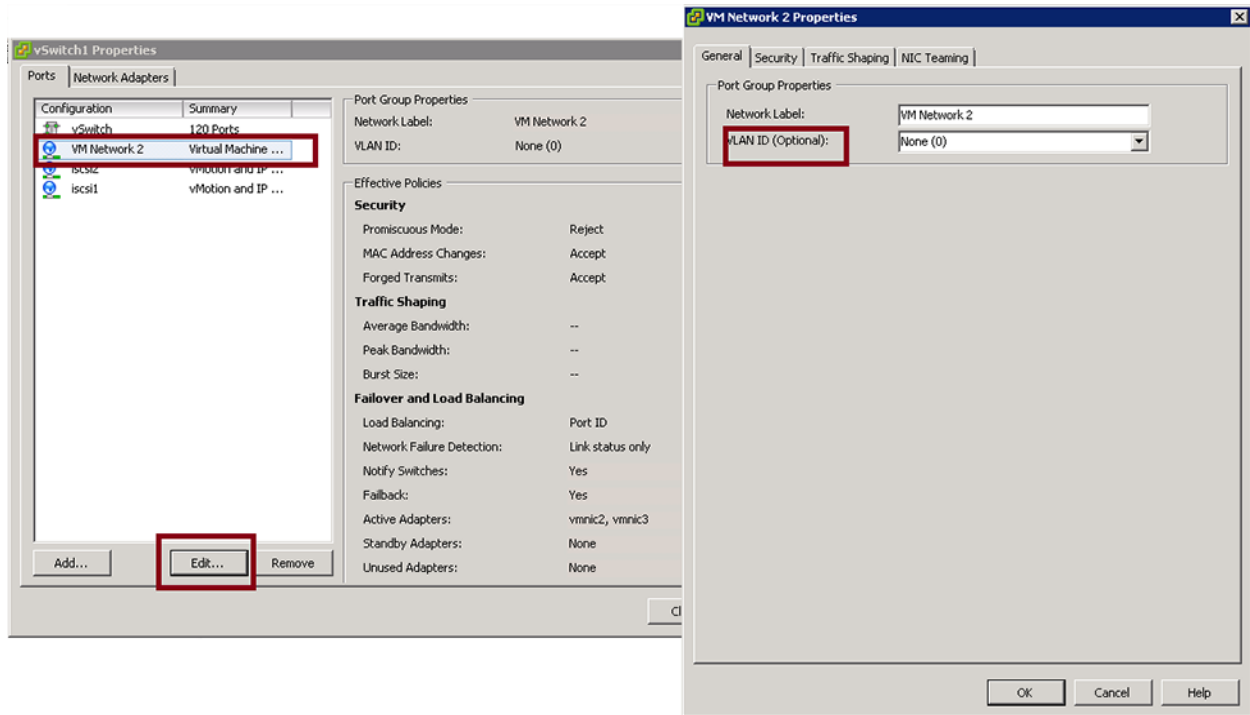
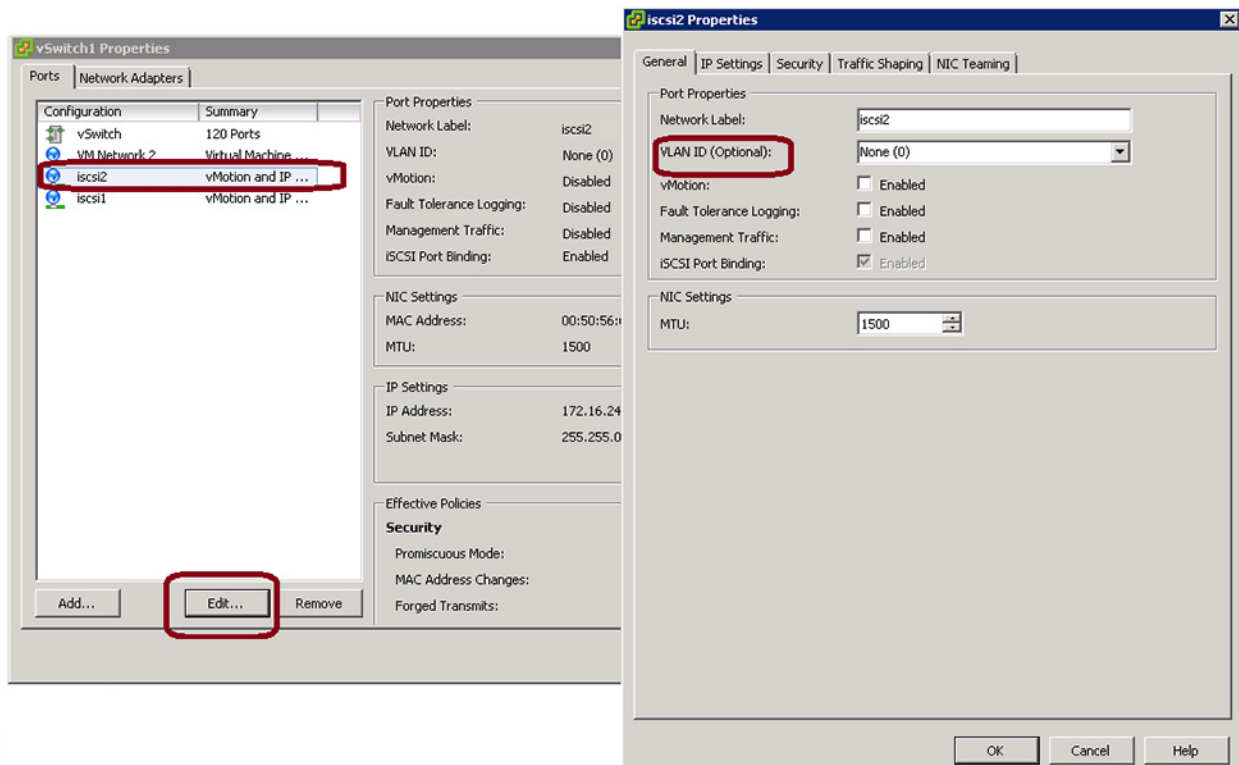

Figure 8-1. VM Network Properties: Example 1
Figure 8-2. VM Network Properties: Example 2
- (Optional) On the VM Network Properties, General page, assign a VLAN number in the **VLAN ID** box. Figure 8-1 and Figure 8-2 show examples.